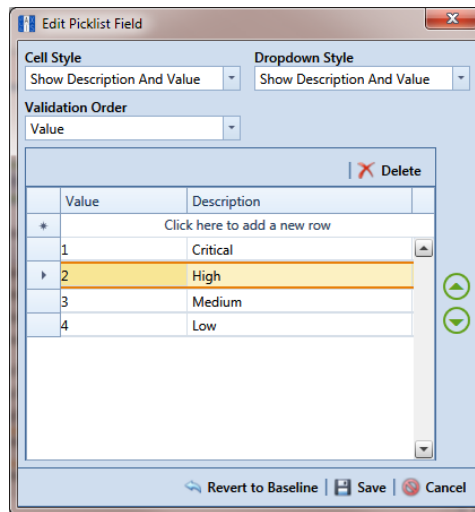

Figure 3-47. Edit Picklist Field
- 6 Click the edit icon  again for the data entry field converted earlier to a *Standard Picklist* to open the *Edit Picklist Field* dialog box (Figure 3-47).
- a** Click the message *Click here to add new row* to add an empty row of fields for data entry (Figure 3-47, page 94).